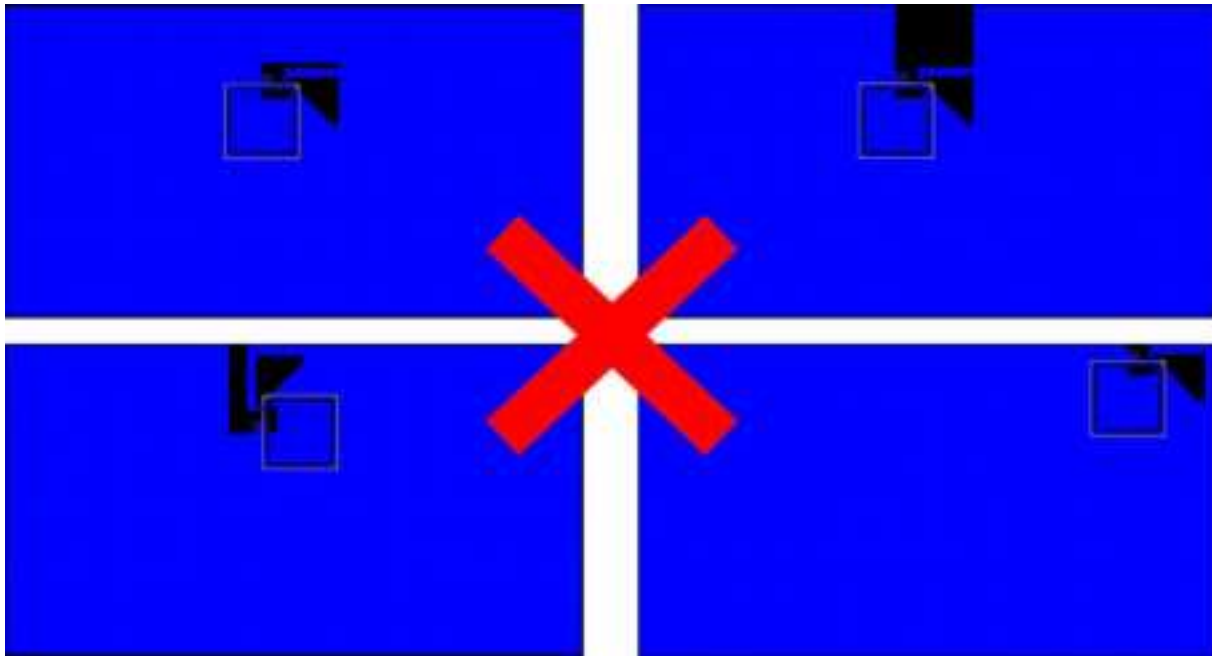

Figure 15: Non-Recommended Layout Examples
- See Antenna Radiation and Efficiency for Lyra 24S Integrated Antenna for reference. Figure 15: Non-Recommended Layout Examples illustrates layout scenarios that will lead to severely degraded RF performance for the application board.